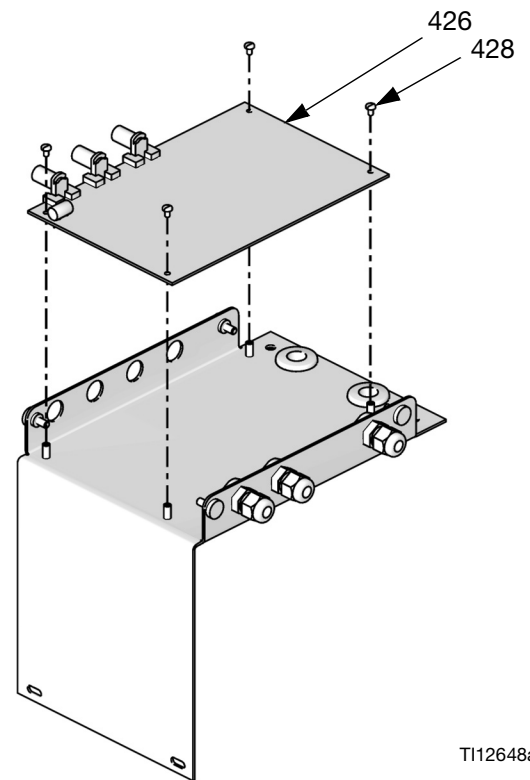

FIG. 28: Remove Control Board
4. Remove 4 screws (428). Remove control board (426). FIG. 28.